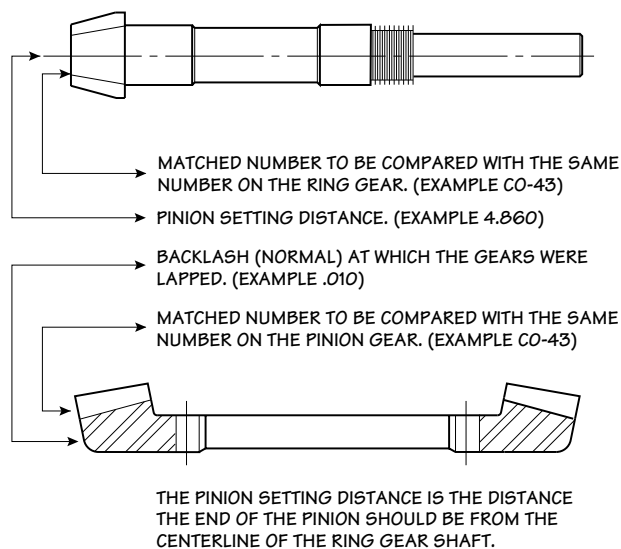

Figure 10 Gear Match Numbers and Setting Data
Before assembling a new pinion gear in the pinion cage check match numbers on pinion gear and spiral bevel ring gear to be certain that they are a matched set. Gears are lapped in matched sets at the factory and should not be separated. Numbers are etched on both the pinion and ring gear as illustrated in **Figure 10**.
1. Install O-ring (702) onto pinion cage subassembly.
2. Bolt pinion cage subassembly to case using proper number of shims to give indicated pinion setting distance which is etched on front face of pinion gear. See **Figure 10**. Tighten to 75 ft·lb_f (102 N·m) torque.
7. Install upper fan shaft bearing cup (422) into Geareducer case cover (not illustrated).